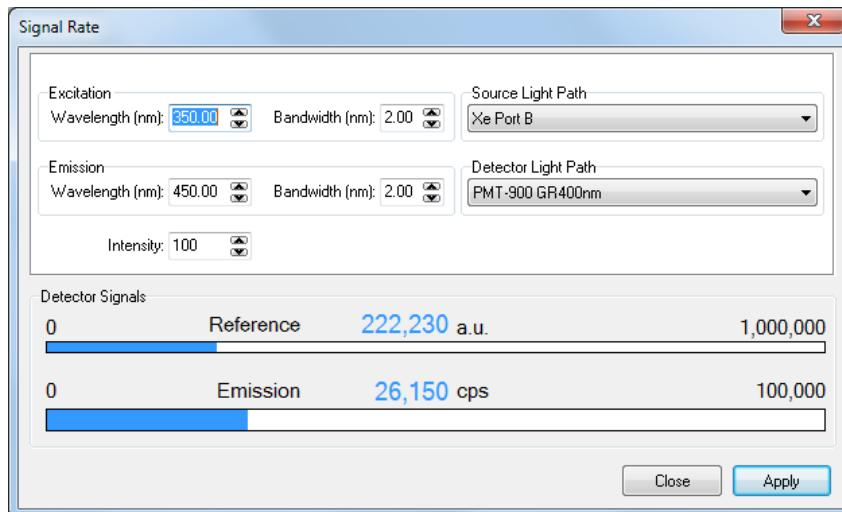

Figure 5-1: Signal Rate window for setting up spectral measurements
- 1) Use the **Signal Rate** dialogue box (Figure 5-1) to select excitation source (Source Light Path) and emission detector (Em Detector Light Path and to prepare for a measurement. Note, bandwidth and intensity attenuator can only be setup there and not in any other spectral scan dialogue box.